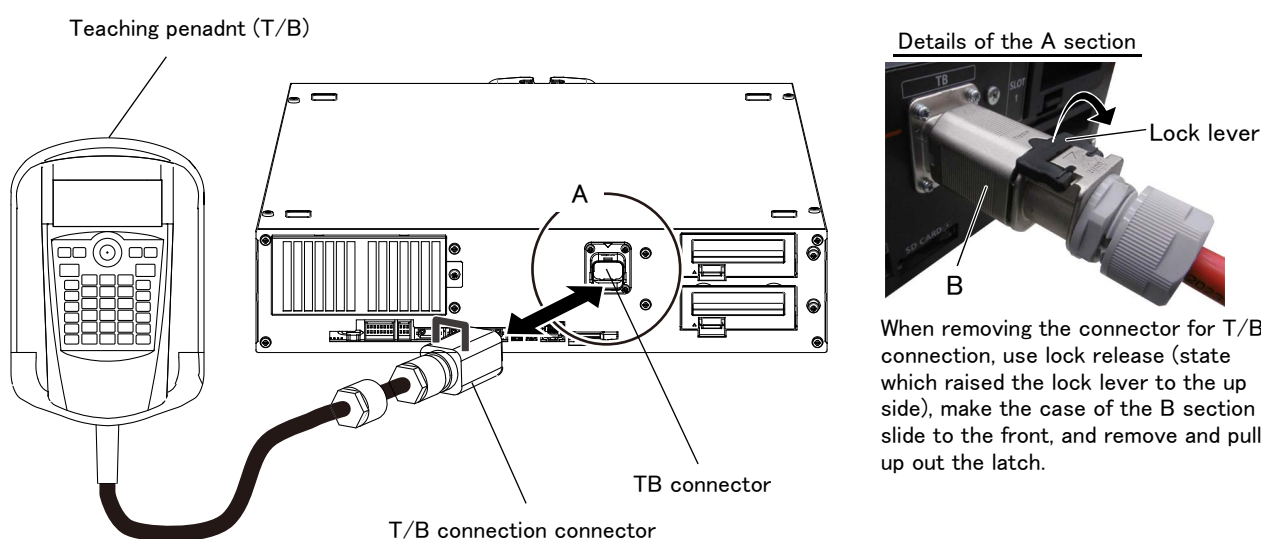

Fig. 4-2 : Installing and removing the T/B
- 2) Refer to Fig. 4-2, connects T/B connector to the robot controller. Use as the upper surface the lock lever, and push in until there is sound.
- 2) Refer to Fig. 4-2, raise up the lock lever in the connector upper part, and pull up the connector.
- 2) Pull out the T/B connector within five seconds while 1). Refer to Fig. 4-2, raise up the lock lever in the connector upper part, and pull up the connector.